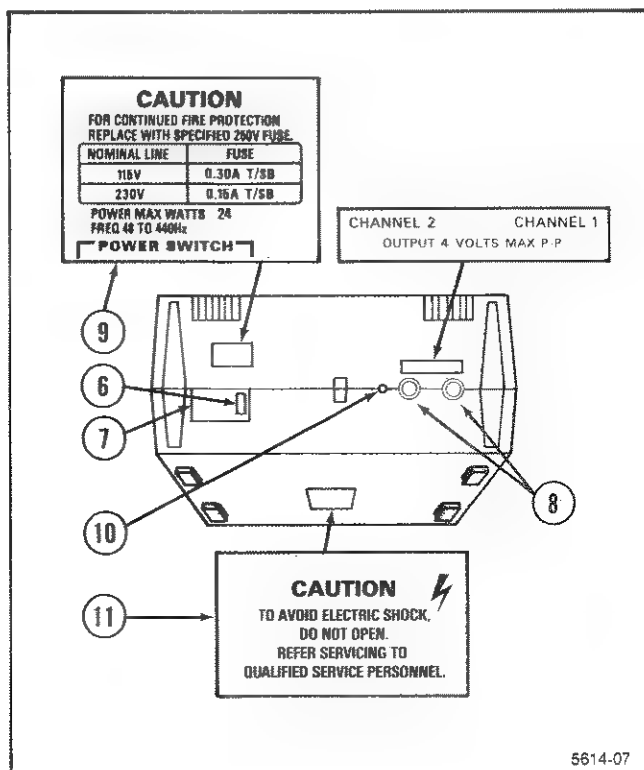

Figure 3-2. Rear- and bottom-panel controls, connectors, and labels.
Refer to Figure 3-2 for the location of items 6 through 10.
- 6 **POWER SWITCH** controls application of ac power to the Isolator. An indicator light on the front panel is actuated when the power switch is in its "on" position (1).
Refer to Figure 3-2 for the location of item 11.
- ⑪ **CAUTION** label warns operators not to open the A6902B case.